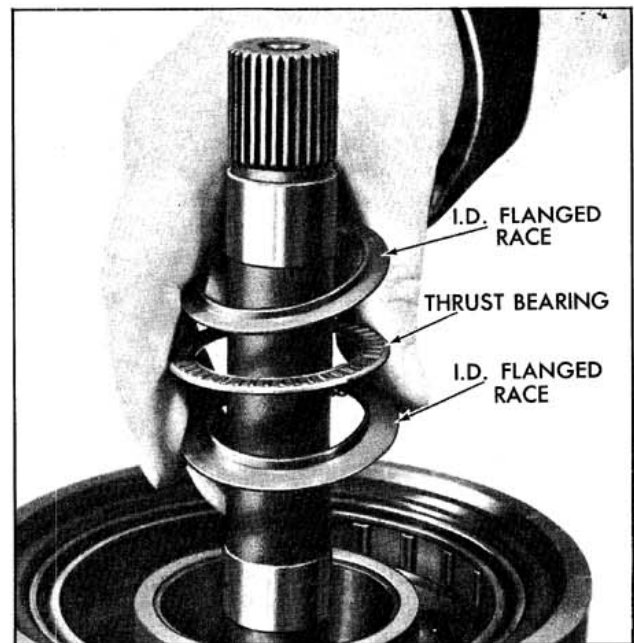

Fig. 6-81 Removing Sun Gear Races and Bearings
3. Remove the center support to sun gear races and thrust bearing. (Fig. 6-81)